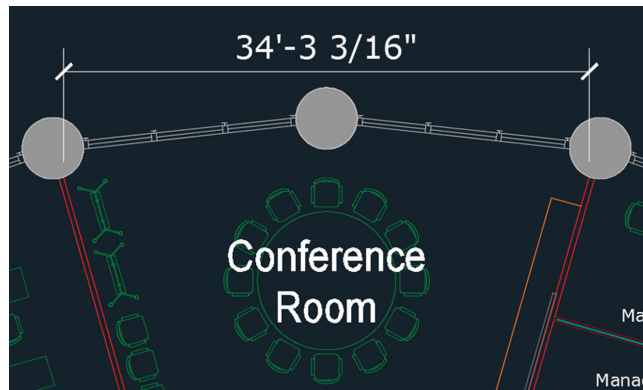

FIGURE 13.8 Moving the 1/16" = 1'-0" (or 1:200 in metric) scale dimension line upward for clarity
4. Toggle on AutoScale if it is not already on. Select the 1/16" = 1'-0" (or 1:200 in metric) scale button in the Annotation Scale menu on the status bar. Select the larger dimension object and, using one of the dimension line grips at either end of the dimension line, move it upward so that the dimension has longer extension lines. Press Esc to deselect. Figure 13.8 shows the result.